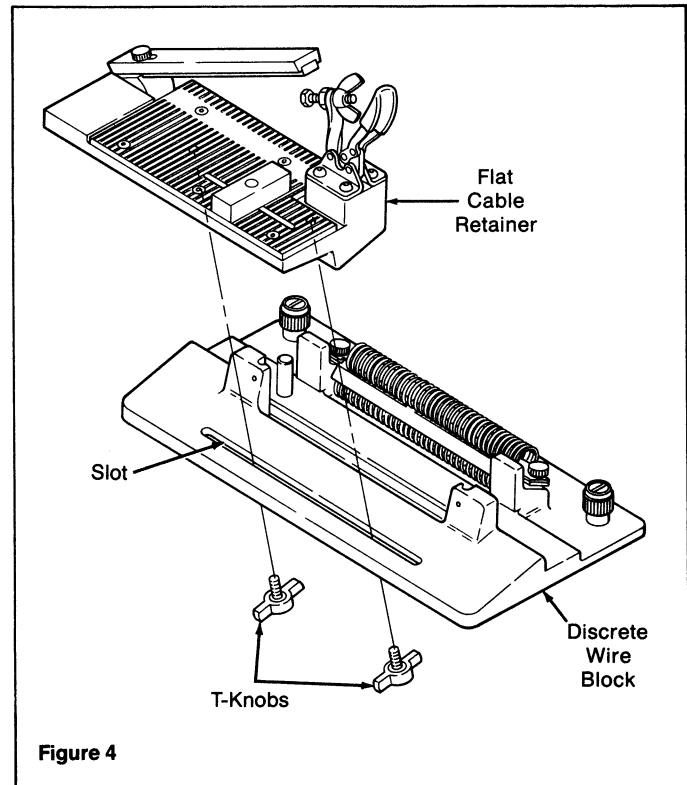

Figure 4
- 3. The Flat Cable Retainer can now be installed. Centrally position the Flat Cable Retainer on the Discrete Wire Block, aligning its mounting holes with the slot. Install the T-knobs and tighten. (Figure 4)